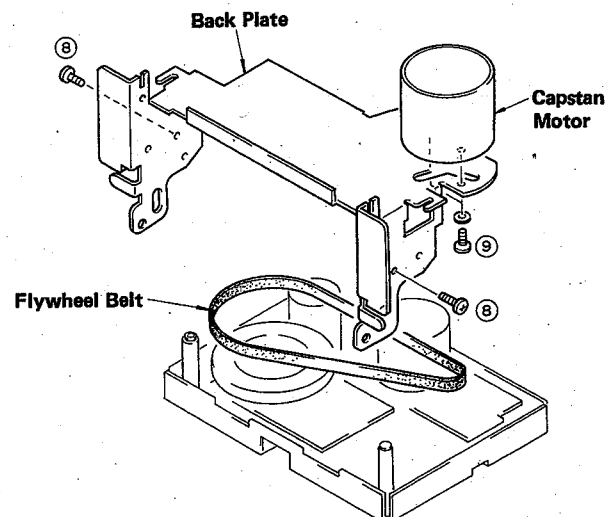

Fig. 4
- Remove 2 screws (⑧) in Fig. 4 and then remove the back plate.
- Remove 2 screws (⑨) in Fig. 4 and then remove the Capstan Motor.